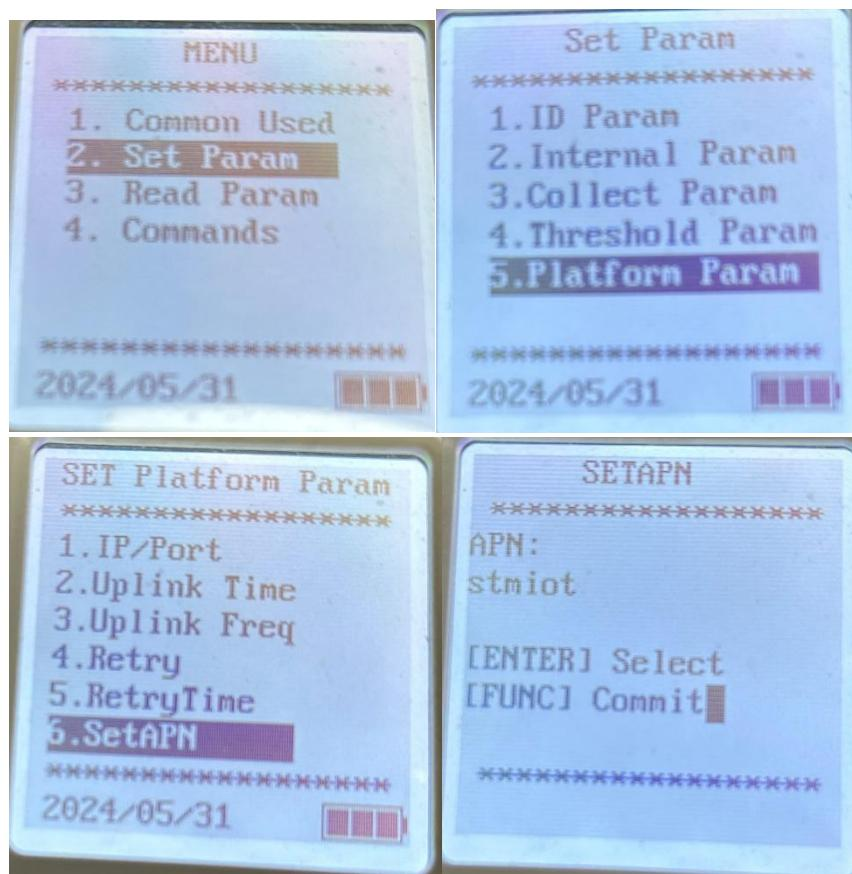

Figure 9: Changing of APN
Figure 9 shows the steps to set the APN. When entering a new APN, note that it switches by the number of times press. For example, the number key 7, the first press is the number 7, the second press is +, the third press is A, the fourth press is B; It's the same with all the other keys.